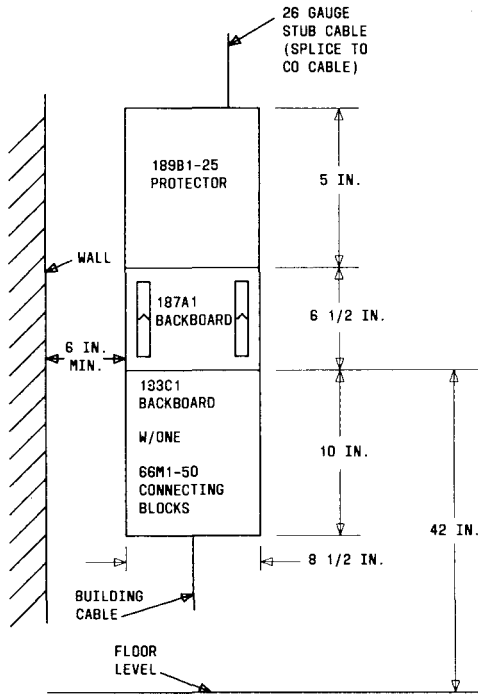

Fig. 13—25-Pair Entrance Cable—50-Pair Building Cable
3.13 Mount the 187A1 backboard, 183-type backboard, and 66M1-50 connecting blocks as shown in Fig. 13 through 16.